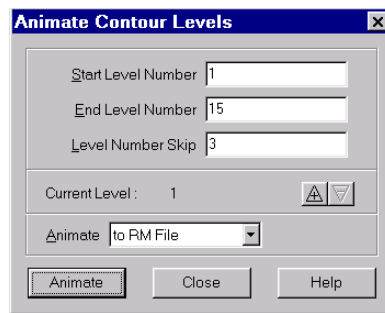

Figure 29-1. The Animate Contour Levels dialog.
1. From the Tools menu, choose Animate, then choose Contour Levels. The Animate Contour Levels dialog appears, as shown in Figure 29-1.